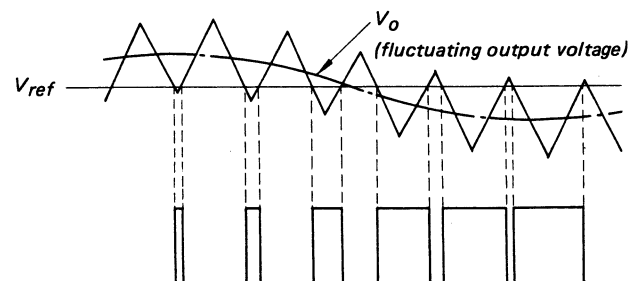

Fig. 11
- When the combined sawtooth wave and reference voltage  $V_{ref}$  are compared and amplified by the error amplifier Q605 and Q606, the output will be pulse-width modulated as shown in Fig. 11.